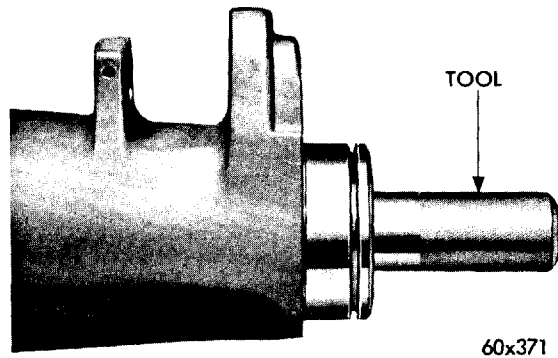
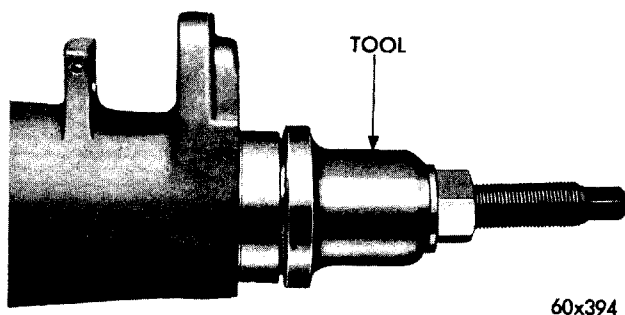

Fig. 23—Removing Output Shaft Bushing
Fig. 24—Installing Output Shaft Bushing
(1) Press or drive out bushing with Tool C-3755 (Fig. 23).
(2) Slide a new bushing over ground end of Tool C-3751, then drive the bushing into housing with the tool. Make sure oil hole in bushing aligns with oil slot in the housing.
(3) Install the cup on the tool followed by the nut. While holding the screw from turning, tighten the tool nut to draw the burnisher through the bushing (Fig. 24).